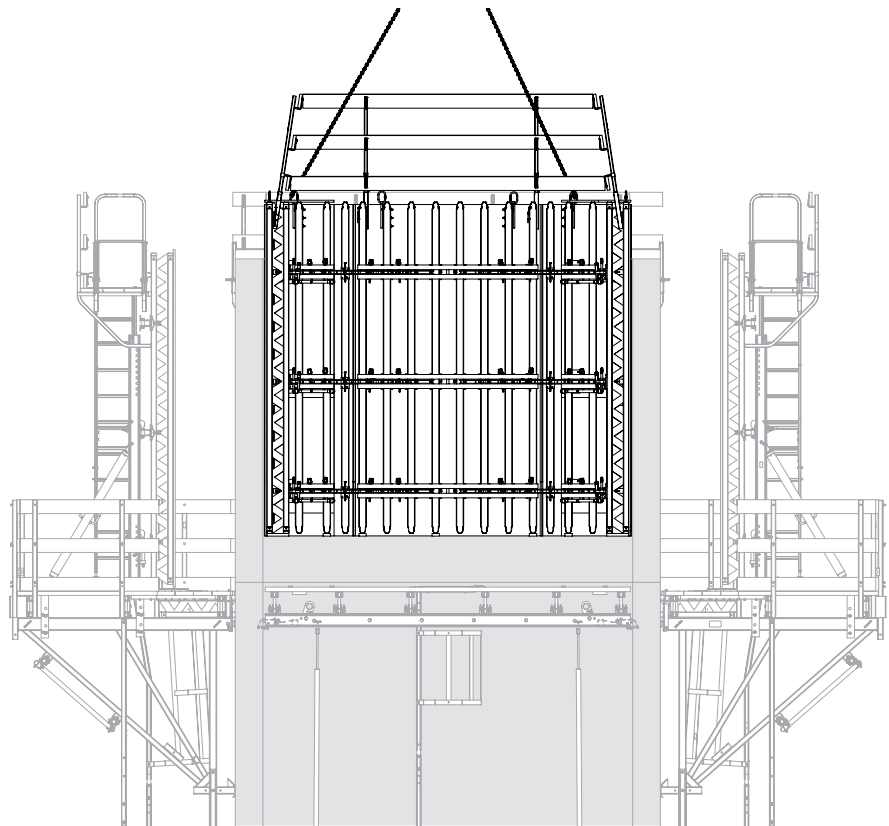

Fig. D1.01
2. Remove the formwork. (Fig. D1.01)